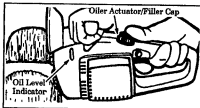

Figure 15
Your saw is equipped with an oiler actuator/filler cap which manually supplies oil to the bar and chain. Figure 15. The oiler actuator/filler cap must be used regularly and often enough to maintain a thin film of oil on the bar and chain while saw is cutting. It is recommended that the oiler actuator/filler cap be operated six (6) times per minute and held for approximately three (3) seconds each time it is pressed.
- a. Operate the oiler by pressing down on the oiler actuator/filler cap with your right thumb. Figure 15.
- e. Check the oil level indicator frequently during use. Locate the indicator in the saw frame just below and behind the front handle. Figure 15. If oil is not visible in the slot when saw is upright on a level surface, the tank requires filling.